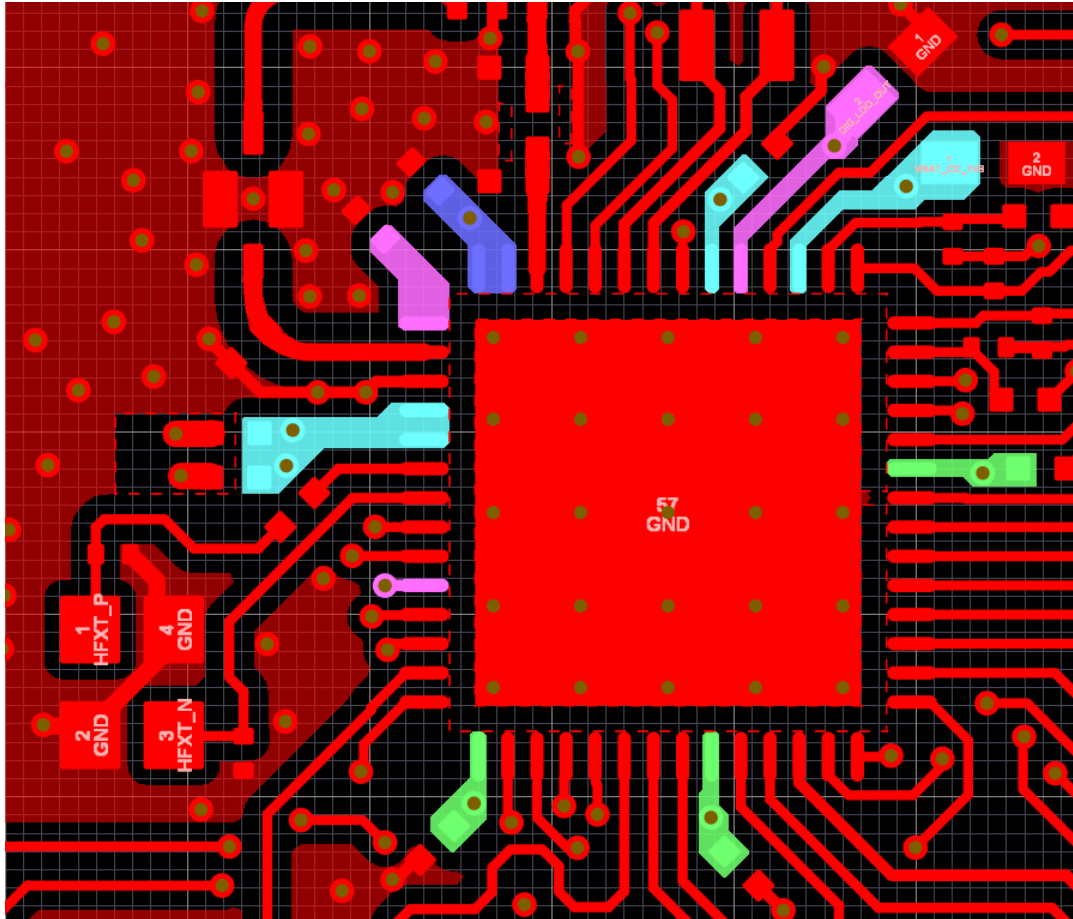

Figure 3-8. Reference Layout of CC35xxE Power Supplies
- PA_LDO_OUT (pin 1): It is suggested to have the decoupling capacitor close to the device pin, as well as a thick enough trace to have a low impedance path to the capacitor. For a visual representation, see Figure 3-8.
Figure 3-8 is sampled from the LP-EM-CC35X1 design files.